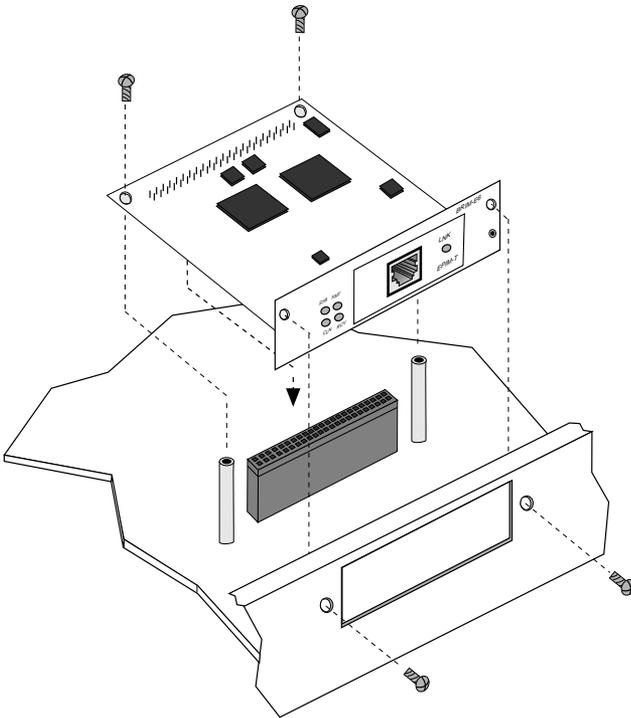

Figure 2-2. Installing the BRIM
- Place your BRIM behind the MIM face plate. (See Figure 2-2.)
5. Place your BRIM behind the hub face plate. (See Figure 2-2.)